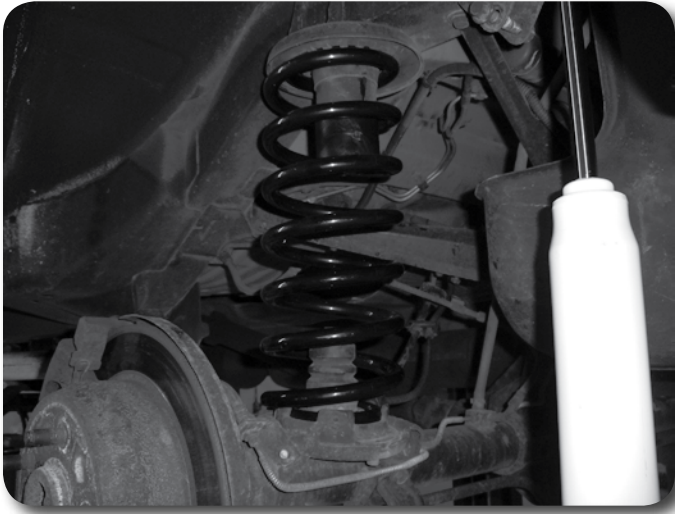

Figure 17
13. Liberally grease the mounting surfaces of the factory rear rubber bump stops and install them into the new rear coils springs before installing the new spring in the the vehicle. Install the spring in the upper mount first and slide onto the axle mount. Be sure the coil is seated properly in the axle mount. Install the bump stop into the original retainer on the axle. A flat pry bar can be used if necessary to fit the bump stop in place. **Figure 17**